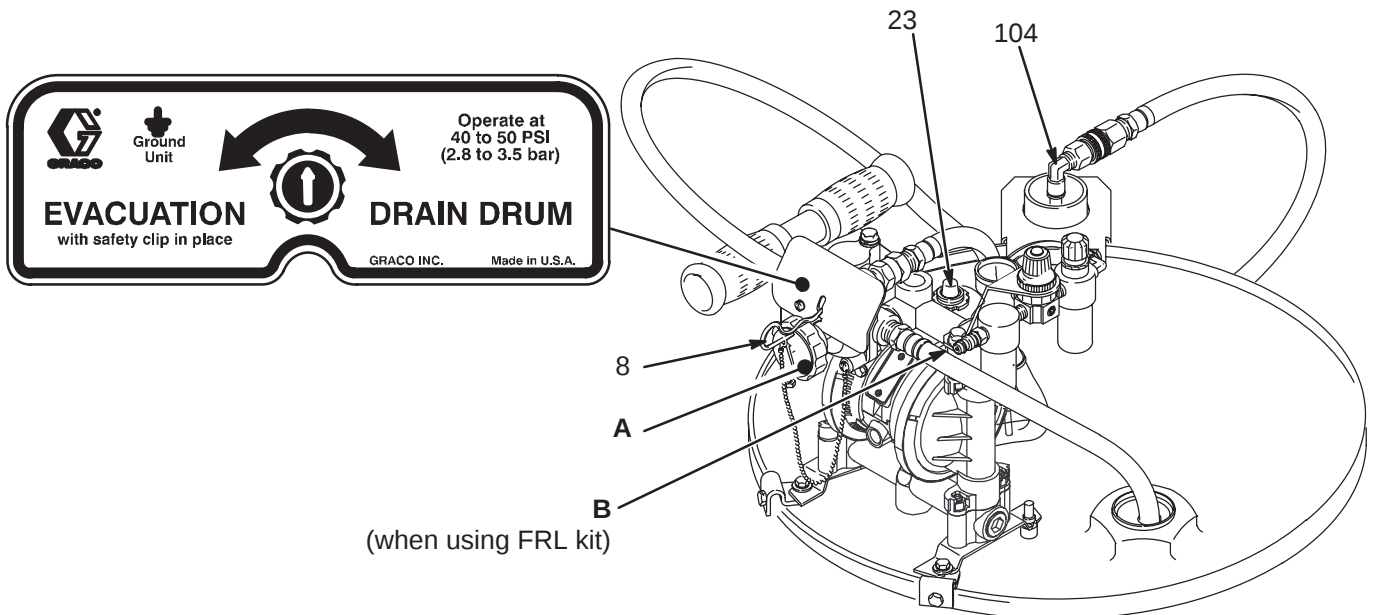

Fig 5
The Fas-Vac system operates in two modes: evacuate lubricants from a crankcase or reservoir and collect the material in a 16 gallon or 55 gallon drum, and drain the stored lubricants from the drum to a larger container. The modes are selected with a lock-in-place control knob (A). See Fig. 5.
The fluid gauge (23) indicates approximately how full the drum is to avoid over-filling it. See Fig. 5. When its red cap is even with the top, the drum will be 75% to 80% full.
2. Be sure that the control knob (A) is in the EVACUATION position and the safety clip (8) locks it in place. See Fig. 5.
3. Connect the air supply hose to the pump air inlet (B). Operate the pump at 40–50 psi (2.72–3.4 bar, 0.27–0.34 MPa) For the best results.
4. Insert the suction wand (104) in the crankcase or reservoir.
1. Remove the suction wand (104). Attach the suction hose quick-disconnect coupler to the male coupler fitting of a waste oil tank, or discharge the material to an access opening.
2. Pull out the safety clip (8), and turn the control knob (A) to DRAIN DRUM. See Fig. 5.
4. When the draining is complete, disconnect the air to the pump, turn the valve knob (A) back to the evacuation position, and install the safety clip (8).